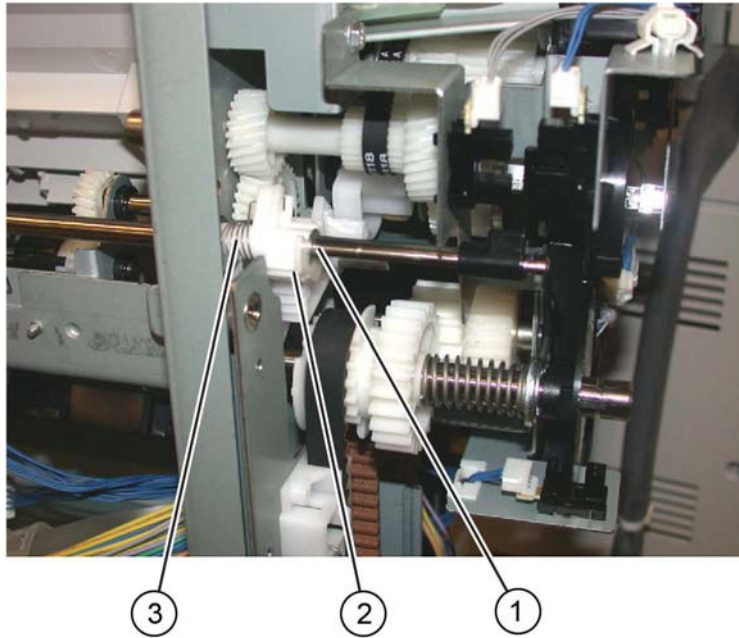

Figure 7 Prepare to remove the set clamp shaft
14. Prepare to remove the set clamp shaft, **Figure 7**:
- Remove the rear E-ring (1) from the set clamp shaft
- Slide the gear (2) away from the frame.
- Disconnect the spring (3) from the gear.